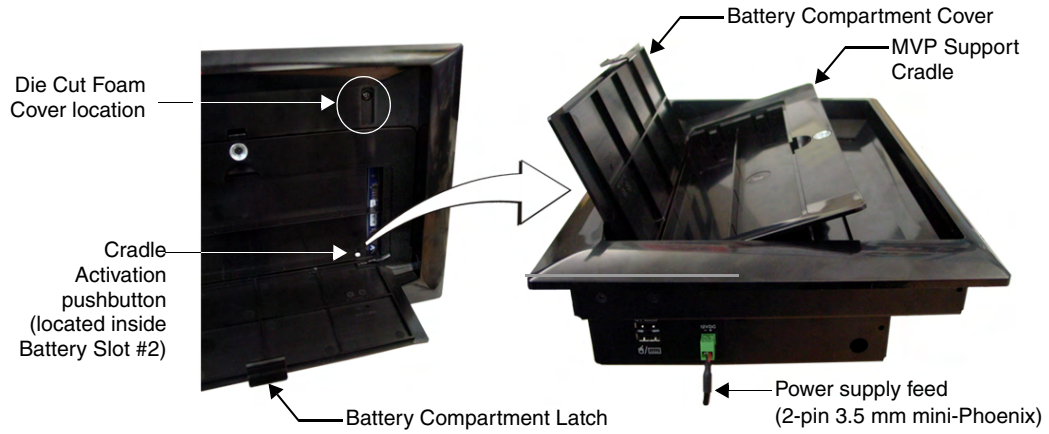

FIG. 19 Cradle activation pushbutton location and cradle angling
2. Carefully remove the previously adhered Die Cut Foam covers from the WDS backplate (FIG. 19). These must be removed to gain access to the two #6-32 Faceplate Security Screws. New covers are included with the MVP-WDS-SK Conversion Kit.
6. Press the Cradle Activation pushbutton (FIG. 19) to make the MVP Support Cradle rise upwards. The MVP Support Cradle must be angled upward to allow removal of the faceplate.
11. Adhere these two plastic Die Cut Foam covers into the two notches where the #6-32 Faceplate Security Screws are located (FIG. 19 on page 20).